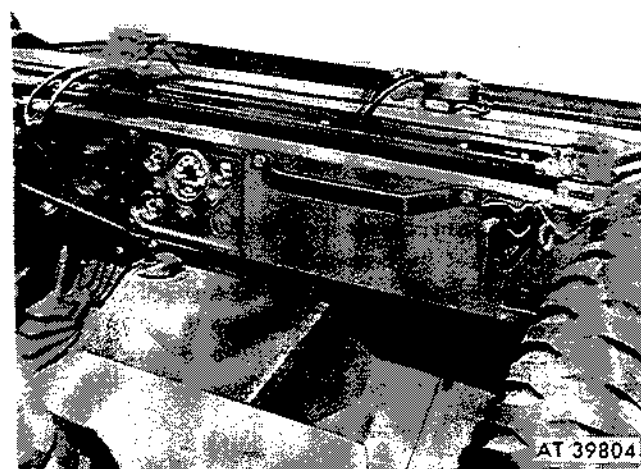

Figure 2-398. Remove safety bar.
b. Replacement. The safety handle bar is secured to the dash panel with two hexagon head cap-screws, two nuts, two washers, and two backing plates (fig. 2-398).